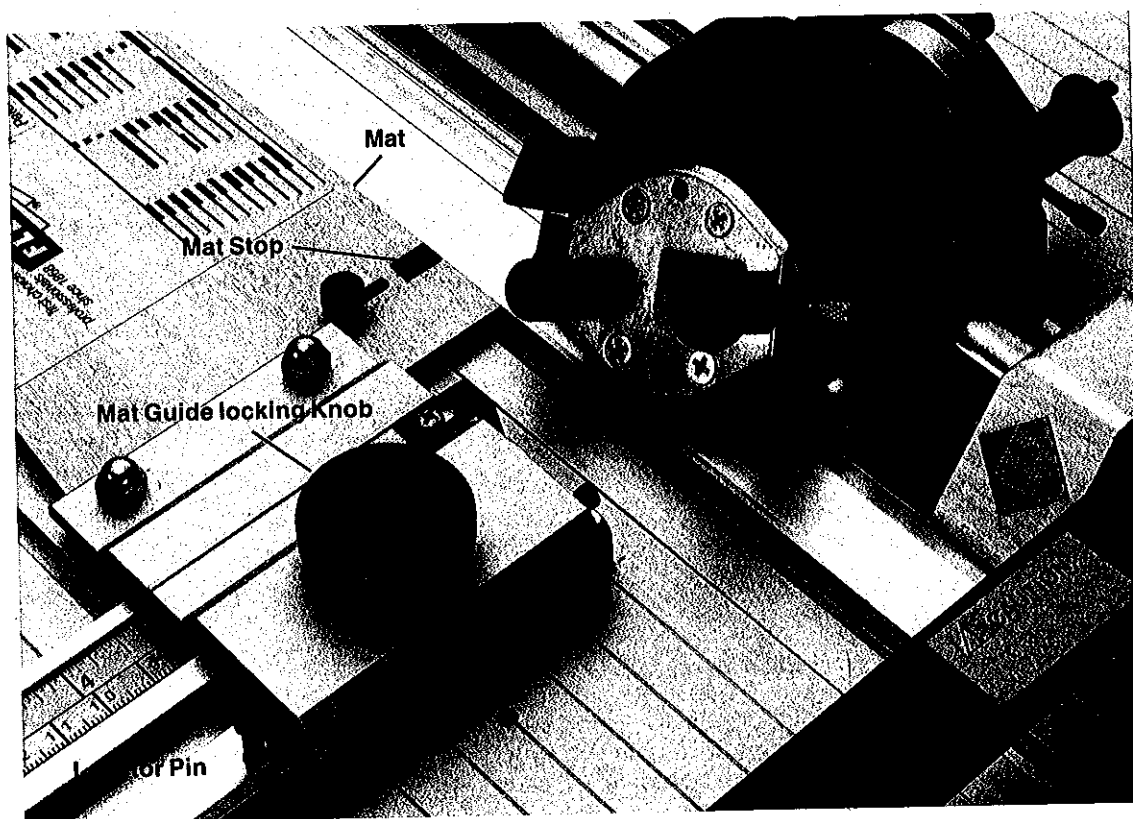

Figure 20.
7. Place the "fall-out" piece right side up under the **Clamp** and against the **Mat Guide**. Be careful not to damage the beveled edge of the "fall-out." Starting with the **Head** well above the "fall-out," (See Fig. 20). rotate the bevel blade to its full down position and pull it at a steady speed until it has completely removed a sliver on the left side of the "fall-out." Rotating the mat 90 degrees each time, repeat this operation until all four sides have been grooved. Be sure to remove scrap slivers after each cut so they do not interfere with the proper position of the fall-out against the **Mat Guide**.